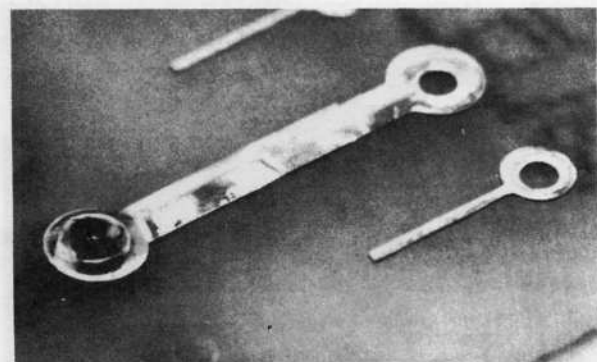

FIGURE 18. COMPLETED CONDUCTOR REPAIR
STEP 16—Clean the area to remove all flux residue with PACE Solvent. This completes the repair of a TRAK-PAD/Land configuration (see Figure 18). Re-coat the repaired area with a conformal coating compatible with existing board coating material. A coating with a suitable epoxy over the TRAK-PAD Track area will provide an "Overbonding" effect.